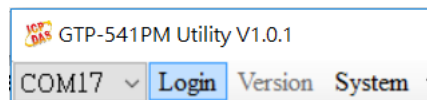
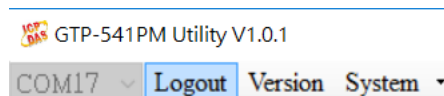

Figure 6.10.2
Figure 6.10.3
B. Click “Login” on the Utility screen. As shown in Figure 6.10.2, if the connection is successful, the “Login” button will change to “Logout”, as shown in Figure 6.10.3